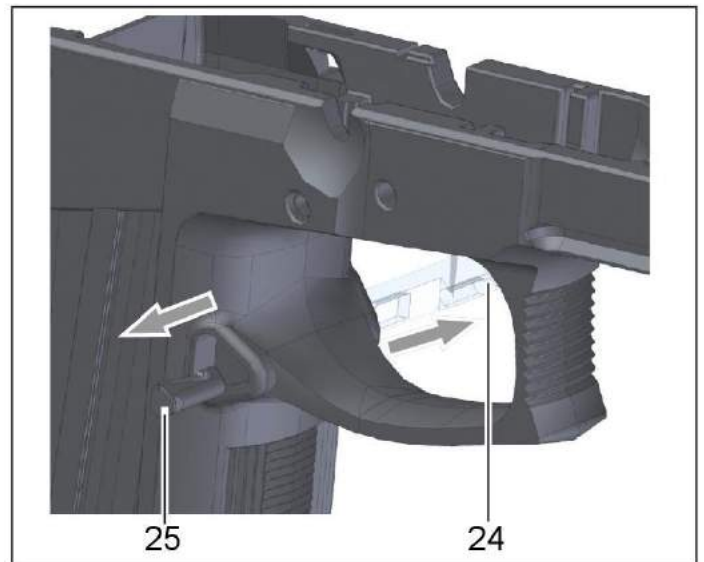

Fig. 8, Repositioning the magazine catch (illustration without trigger)
4. Remove magazine catch **24** and insert it from the desired operating side (see Fig. 8).